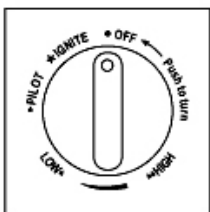

Figure 11a – Control knob in OFF position
- 1) Turn the Control Knob to the "OFF" position (Figure 11a).